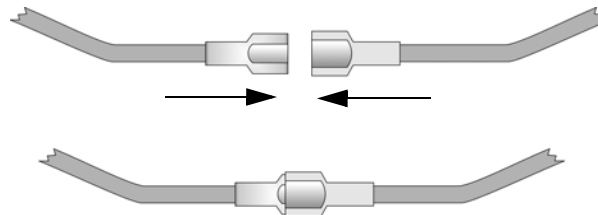

Figure 4-4 Splicing Control Panel Battery Cable to RBB Battery Cable Extenders
2. Connect the main control panel battery cables to the battery cable extenders as shown in Figure 4-4.